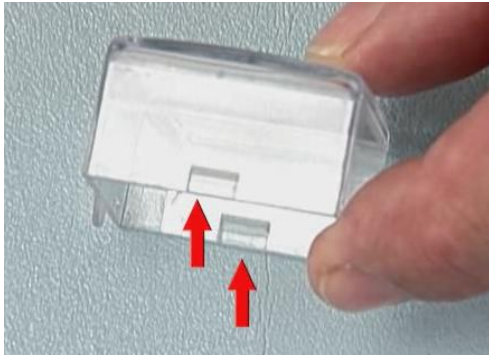

Figure 3
8. The lens caps have two positive locking latches that lock the lens to the lens holder. **See Figure 3.** Two small pocket flat screwdrivers must be used to disengage the locks. Then a pair of pliers is needed to remove the Lens Holder from the Lens Cap. **See Figure 4.**